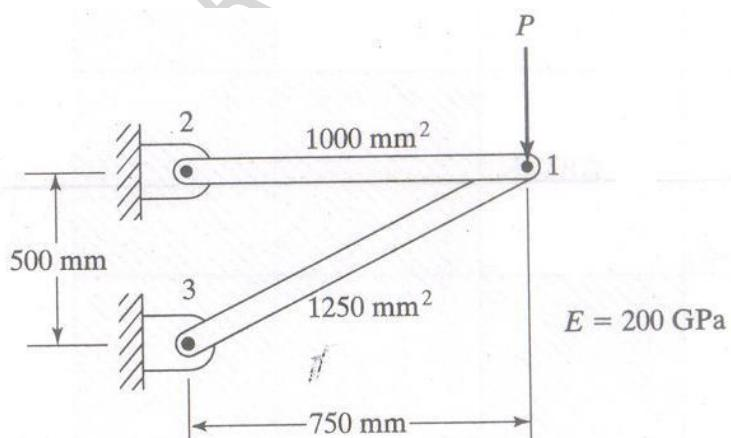

Fig. 4b
b) For the pin jointed configuration shown in Fig.4b, determine the Element stiffness Matrix, Displacement, and stress in both elements. $P=1000 \text{ N}$ 12